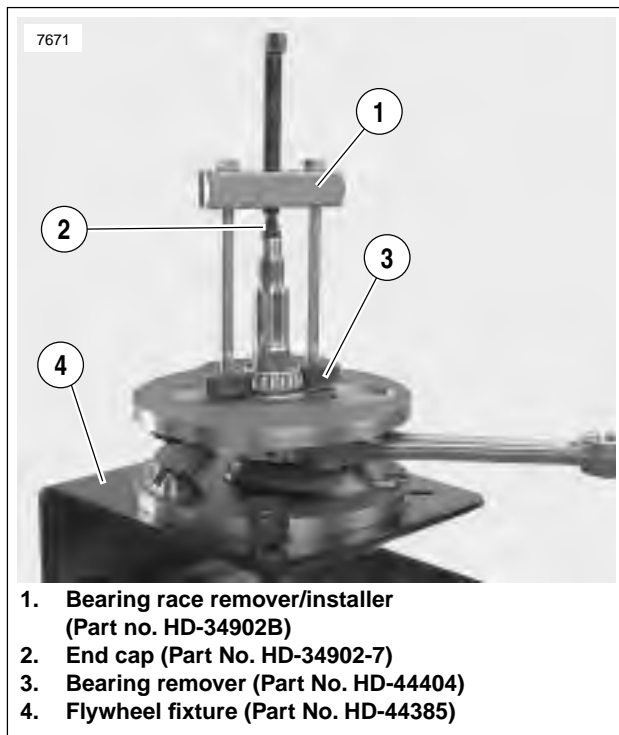

Figure 3-115. Removing Sprocket Shaft Roller Bearing
11. See Figure 3-115. Place flywheel assembly in FLY-WHEEL SUPPORT FIXTURE (Part No. HD-44385). Pull sprocket shaft bearing with SPROCKET SHAFT INNER TIMKIN BEARING REMOVER (Part No. HD-44404) and BEARING RACE REMOVER/INSTALLER (Part No. HD-34902B).